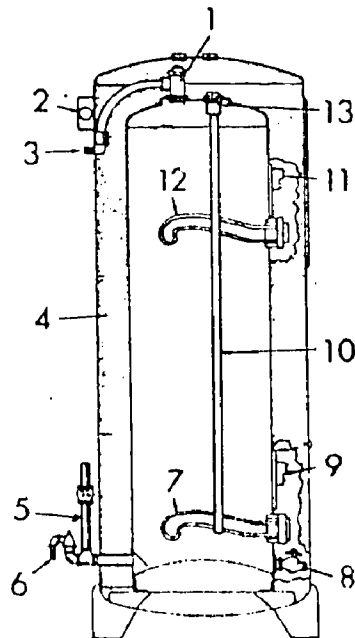

Figure 4
6. In the illustration (Fig. 4) of an electric heater locate by number the hot water outlet.
7. In the illustration (Fig. 4) of an electric heater locate by number the tee connection.
8. In the illustration (Fig. 4) of an electric heater locate by number the male-female plug.
9. In the illustration (Fig. 4) of an electric heater locate by number the upper heating unit.
10. In the illustration (Fig. 4) of an electric water heater, what number indicates the lower heating unit?